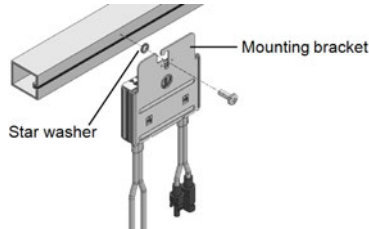

Figure 5: Power optimizer installation and grounding using a star washer
- Determine the power optimizer mounting location and use the power optimizer mounting brackets to attach the power optimizer to the support structure (See *Figure 5*). It is recommended to mount the power optimizer in a location protected from direct sunlight. For frame-mounted power optimizers follow the instructions supplied with the optimizers, or refer to [https://www.solaredge.com/sites/default/files/installing\\_frame\\_mounted\\_power\\_optimizers.pdf](https://www.solaredge.com/sites/default/files/installing_frame_mounted_power_optimizers.pdf).
- **For mounting on a grounded metal rail:** Use the provided 5/16" stainless steel grounding star washer between the railing and the flat side of the mounting bracket. The grounding washer should break through the anodize coating of the railing to ensure low resistive connection. Apply torque of 9.5 N\*m / 7 lb\*ft. See *Figure 5*.